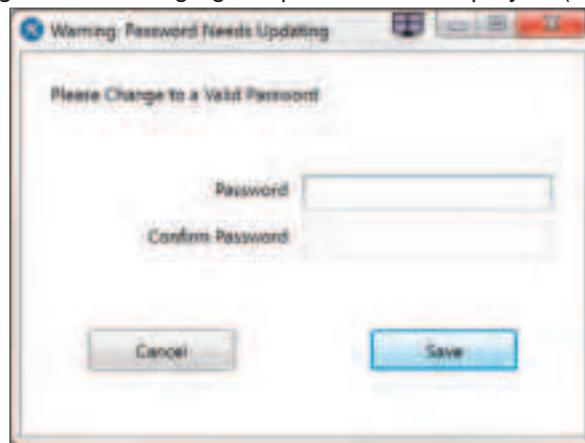

Figure 91: CCM – Changing Factory Default Setting Admin Account Password
- 3 Click **Login**. A dialog box for changing the password is displayed (Figure 91).